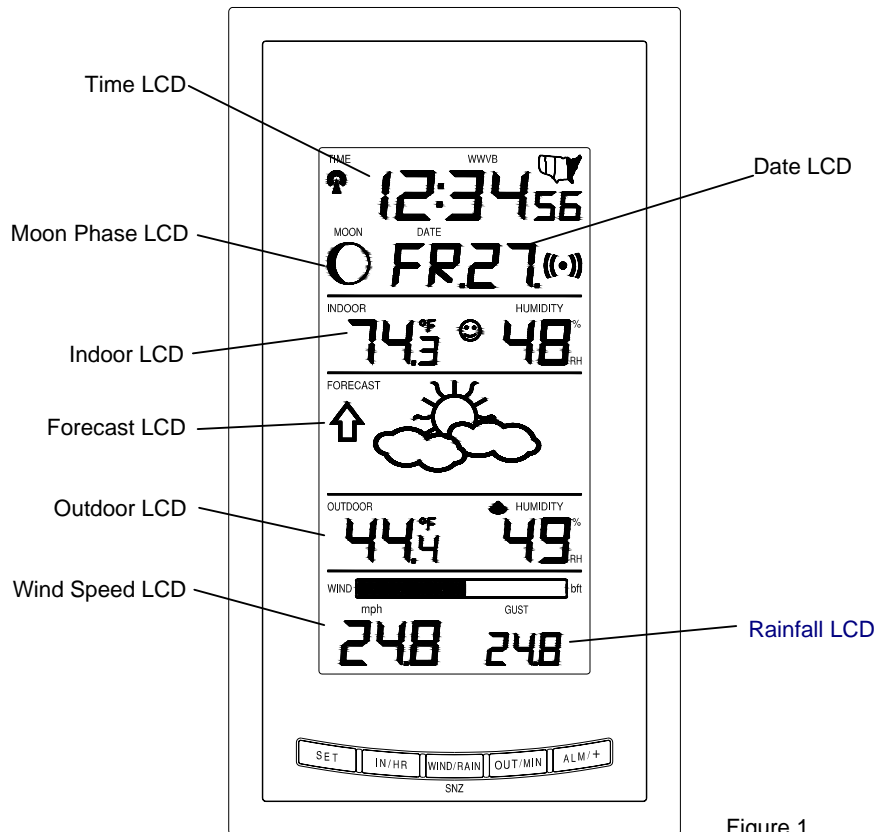

Figure 1
1. The WS-9046U weather station (Figure 1).